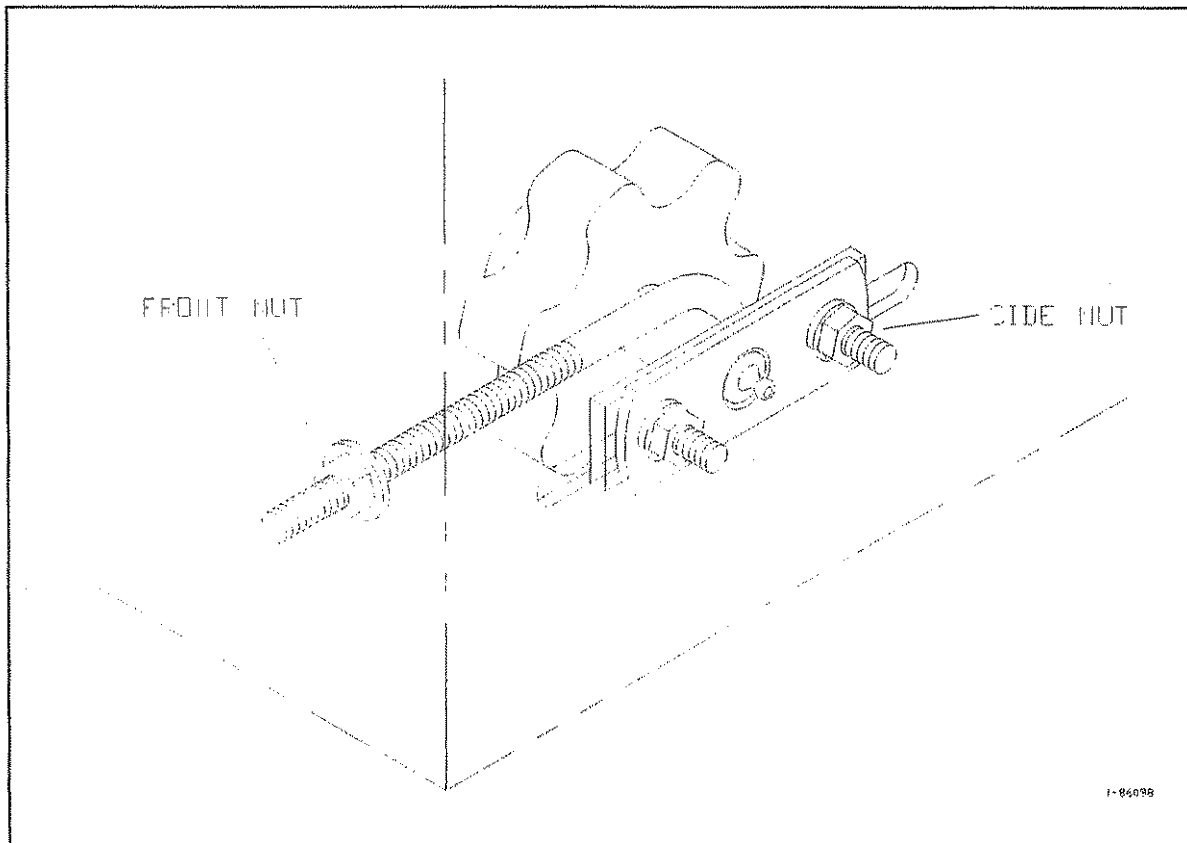

Figure 4B - Adjusting the Floor Apron Chain for Proper Tension
- Periodically check the floor apron chain for tension/tightness (refer to Figure 4B).
- d) If the chain needs adjustment, use a 3/4" wrench to loosen the two side nuts on each side of the spreader box as shown in Figure 4B. Turn the *front* nut clockwise or counterclockwise with a 9/16" wrench until correct tension/tightness is achieved. Repeat for the other side. *Make sure that the chains on each side of the apron are equally taut.*